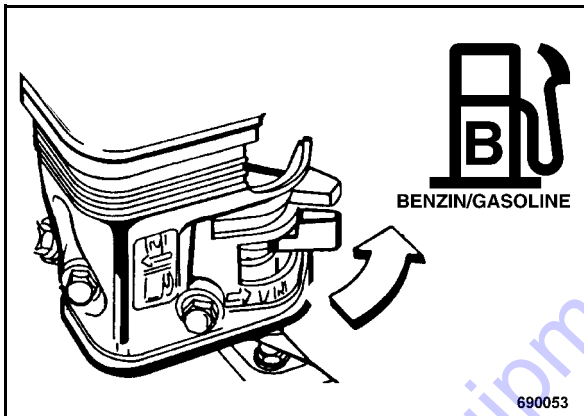

Fig. 64
- Open the fuel tap (Fig. 64) by turning in direction of arrow.